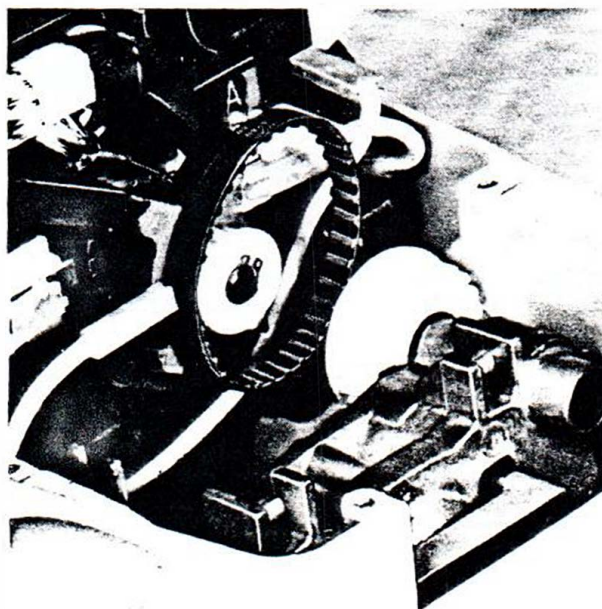

Figure 10. Drive Belt and Drive System Assembly Removal
- F. While supporting drive system assembly, turn the still assembled components of the power unit over. Position power unit as shown in Figure 10.